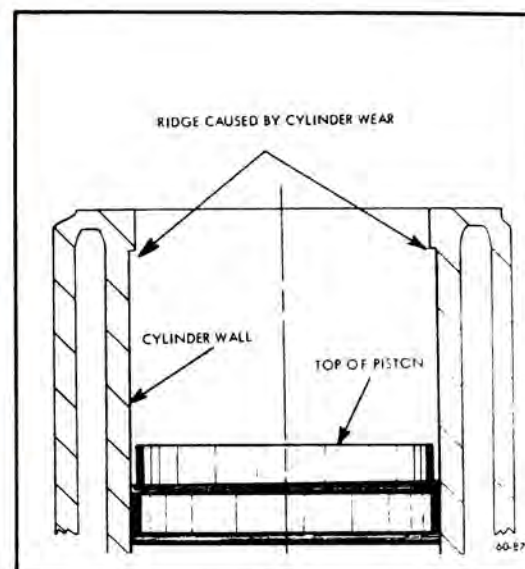

Figure 60-226—Ridge Formed By Rings at Top of Travel
2. Examine the cylinder bores above the ring travel. If bores are worn so that a shoulder or ridge exists at the top of the cylinder, remove the ridges with a ridge reamer to avoid damaging rings or cracking ring lands in pistons during removal. See Figure 60-226.